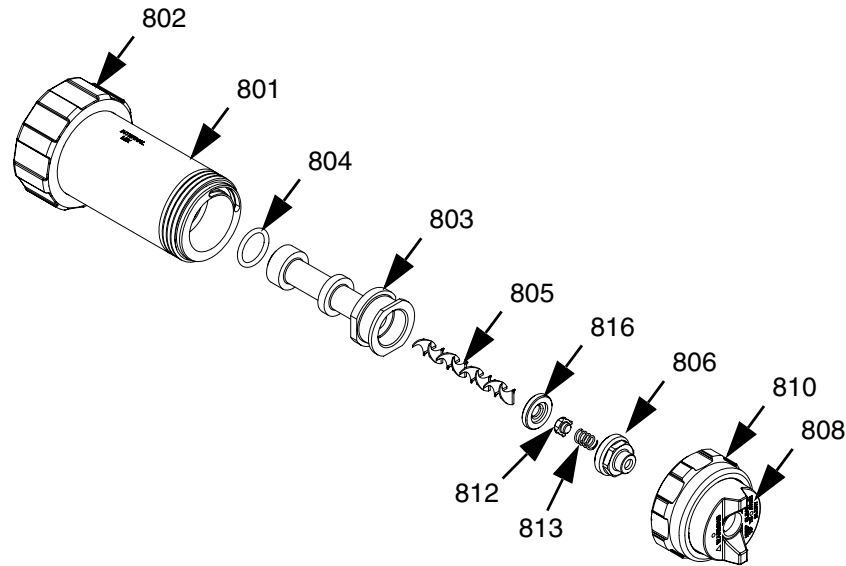

FIG. 14
2. Remove retaining ring (810) and air cap assembly (808) from head (801).
3. Remove diffuser assembly (803).
4. Use two wrenches on flats of diffuser and cap (806) to remove cap. Spring (813) and check valve (812) will fall out when cap is removed.
5. Use a small hex key in the small hole in the back of the diffuser to push the mix element (805) and check valve seat (816) out.
6. Install new mix element into diffuser (803).
7. Install check valve seat (816) into diffuser. See FIG. 14 for seat orientation.